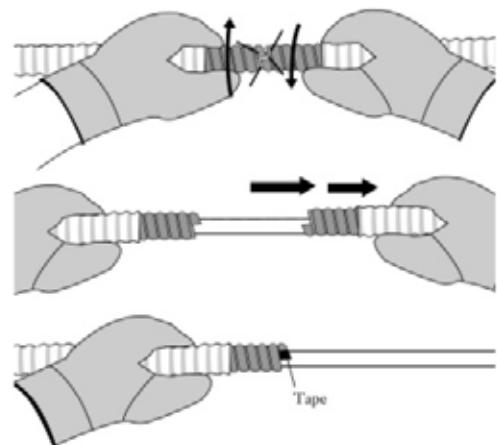

Figure 17
- Step 8:** Holding the cable on both sides of the cut, twist the cable to separate the armor. Remove the armor and outer sheath from the free end of the cable by sliding it off. (Figure 17).